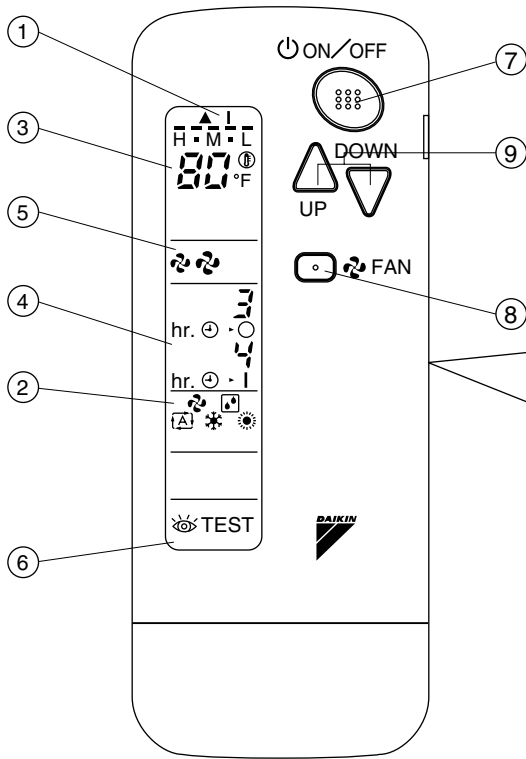

Fig. 1-1
2. NAMES AND FUNCTIONS OF THE OPERATING SECTION (Fig. 1-1~3, 2)
- For the sake of explanation, all indications are shown on the display in Fig. 1-1 contrary to actual running situations.